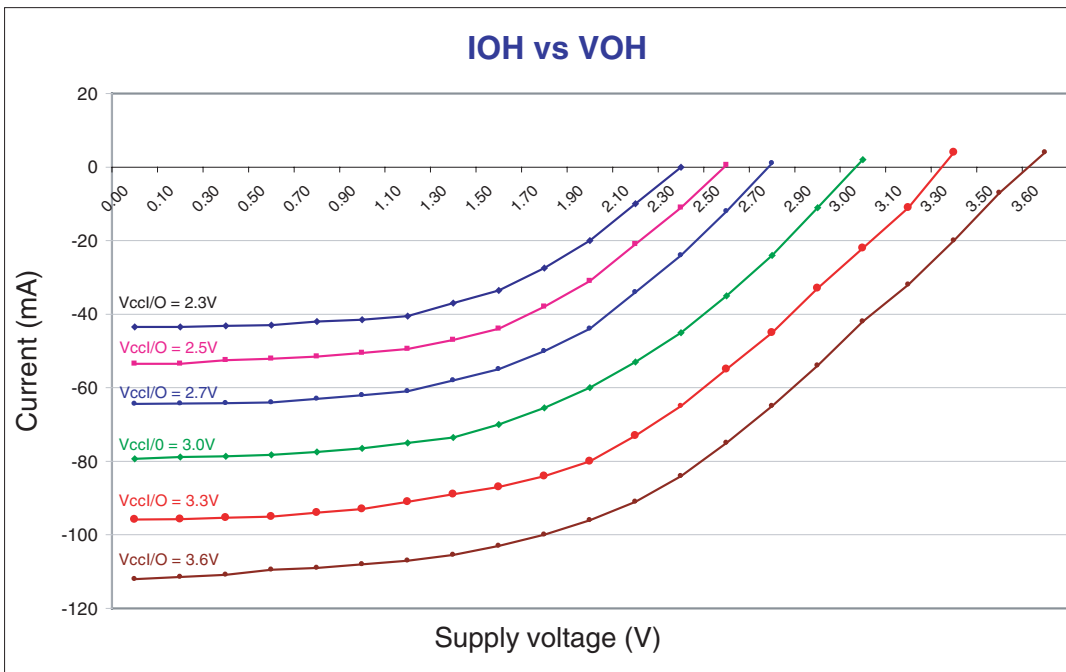

Figure 19: IOH vs. VOH
a. The data provided in **Table 17** are JEDEC and PCI Specifications—QuickLogic devices either meet or exceed these requirements. For data specific to QuickLogic I/Os, see **Table 1** through **Table 13** and **Figure 1** through **Figure 19**.